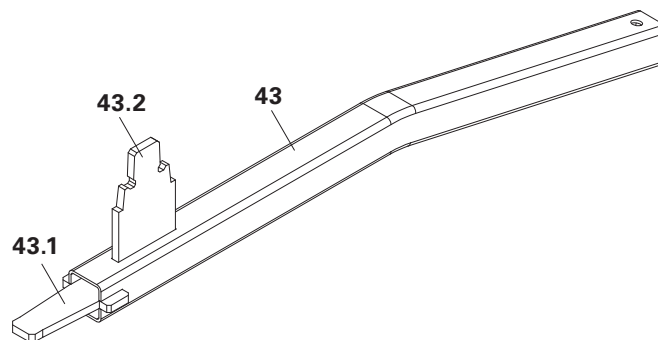

Fig. D1.03
- Remove by means of Magnet Cone Spanner MX 15/18 (43), Item no. 126696. (Fig. D1.03)